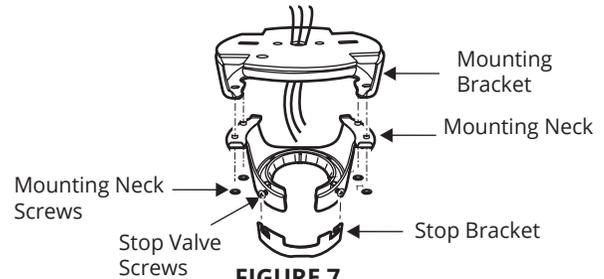

FIGURE 7
3. Unscrew the four mounting neck screws to separate the mounting bracket from the mounting neck. (Fig. 7)